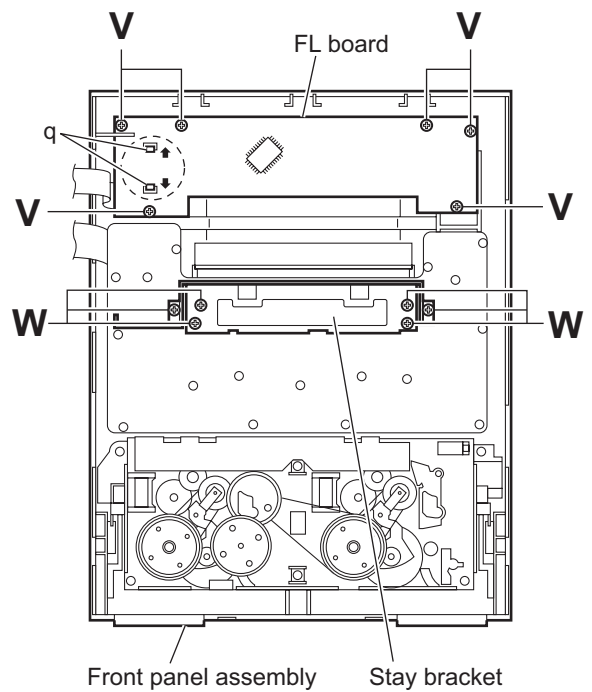

Fig.24
- (2) From the inside of the front panel assembly, remove the six screws **V** attaching the FL board. (See Fig.24.)
- (3) Release the claws **q** in the direction of the arrow and take out the FL board from the front panel assembly. (See Fig.24.)
- (2) From the inside of the front panel assembly, remove the six screws **W** attaching the stay bracket. (See Fig.24.)